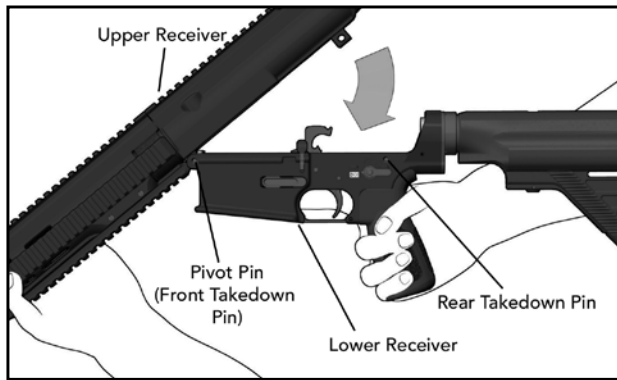

Fig. 51 – Closing Upper and Lower Receiver
- Mount the lower receiver to the upper receiver. Drift the front pivot pin from right to left. The pivot pin will not completely lock but it will engage the upper receiver (Fig. 51).